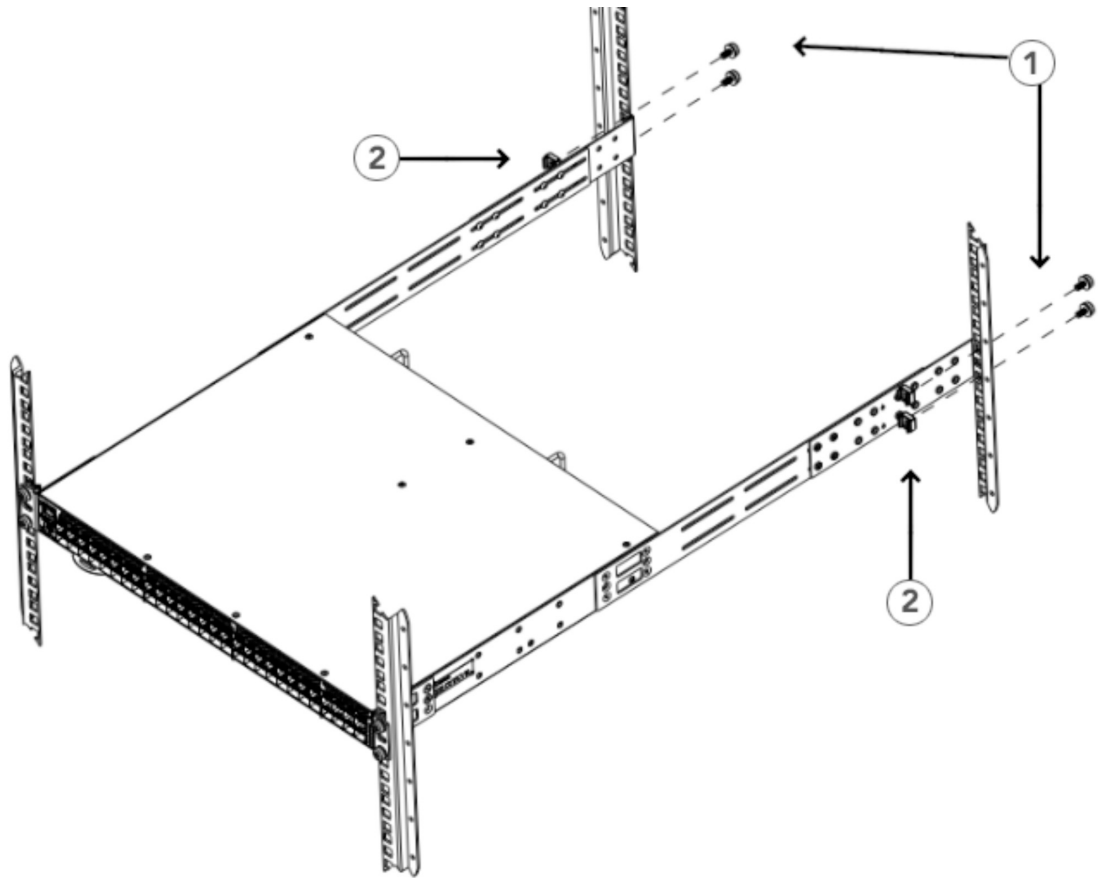

Figure 9. Attaching the rear brackets to the rack posts
1. Attach the right rear bracket to the right rear rack post using two 10-32 x 5/8-in. panhead screws and two retainer nuts, as shown in Figure 9 on page 19. Use the upper and lower holes in the bracket.